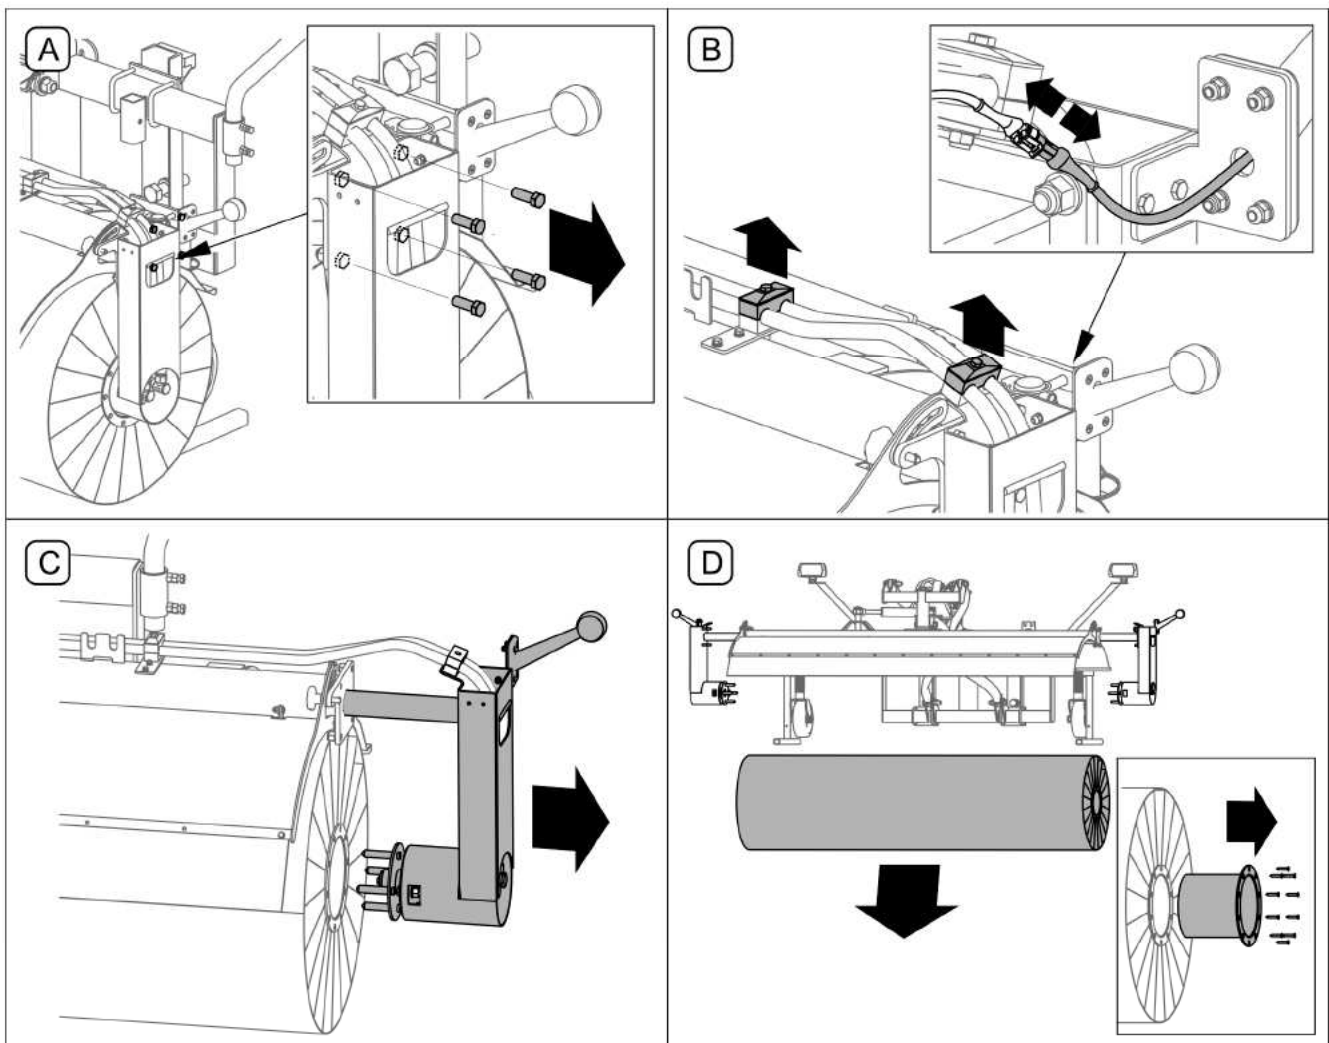

FIG. 5.1 Brush replacement
All the brush replacement activities (FIG. 5.1) should be performed on the right and left side of the machine. To remove the brush:
- Unscrew bolts (4 bolts on each side) that fix the hydraulic motor's bracket to the brush frame (A, FIG. 5.1)
- Loosen clamping rings of hydraulic conduits and disconnect electrical connectors on clearance lights on the right and left side of the machine (B, FIG. 5.1)
- Slide out both brackets of hydraulic motors (C, FIG. 5.1)
- Remove the brush, unscrew screws (10 screws on each side) that fix the brush to the drive drum and remove the brush mounting (D, FIG. 5.1)